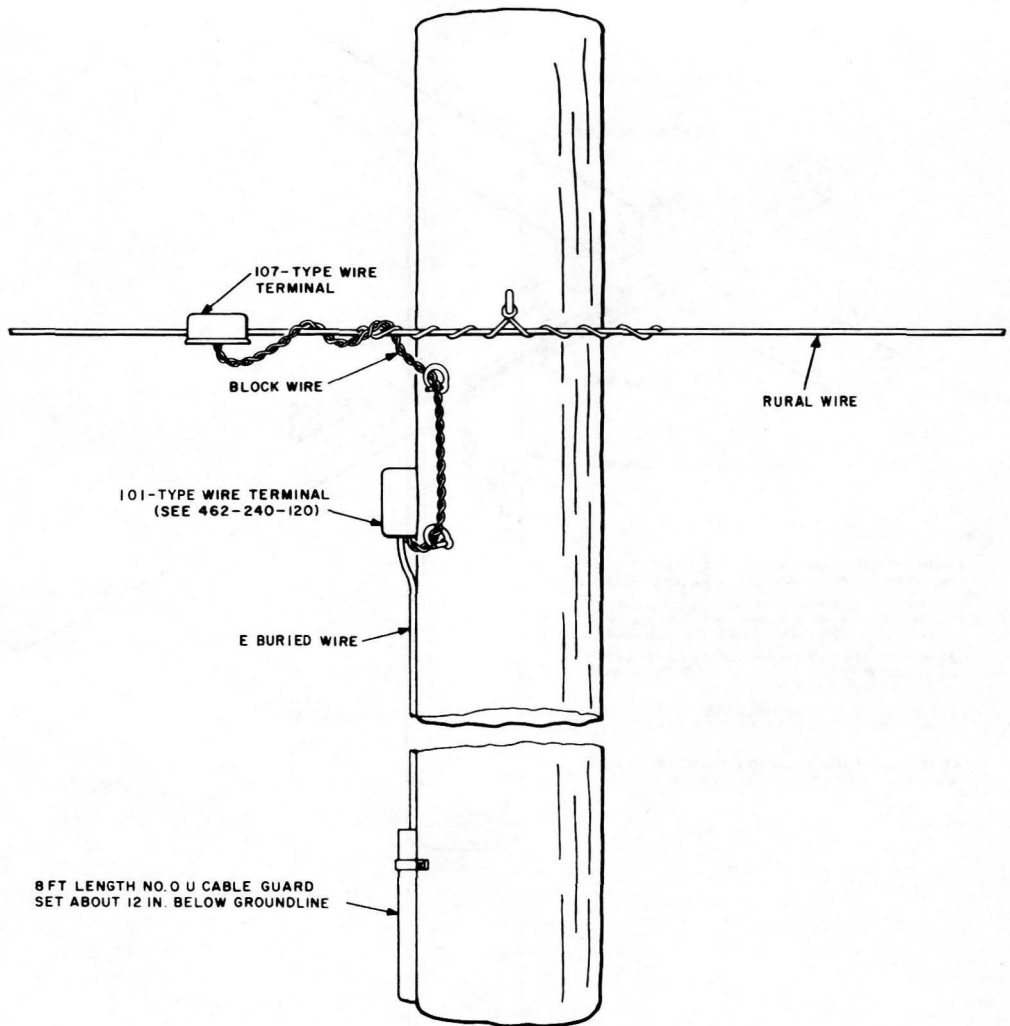

Fig. 30—Termination of E Buried Wire and Rural Wire
9.02 At the junction with C rural wire, ♦E buried♦ wire can be brought up a pole and terminated in a 101B2 wire terminal. ♦The metallic shield should be cut off and taped as shown in Fig. 26.♦ Block wire should be used to bridle between the 101B2 wire terminal and the 107-type wire terminal on the C rural wire. At the groundline, the E buried wire should be covered with an 8-foot length of No. 0 U cable guard. A typical installation is shown in Fig. 30.